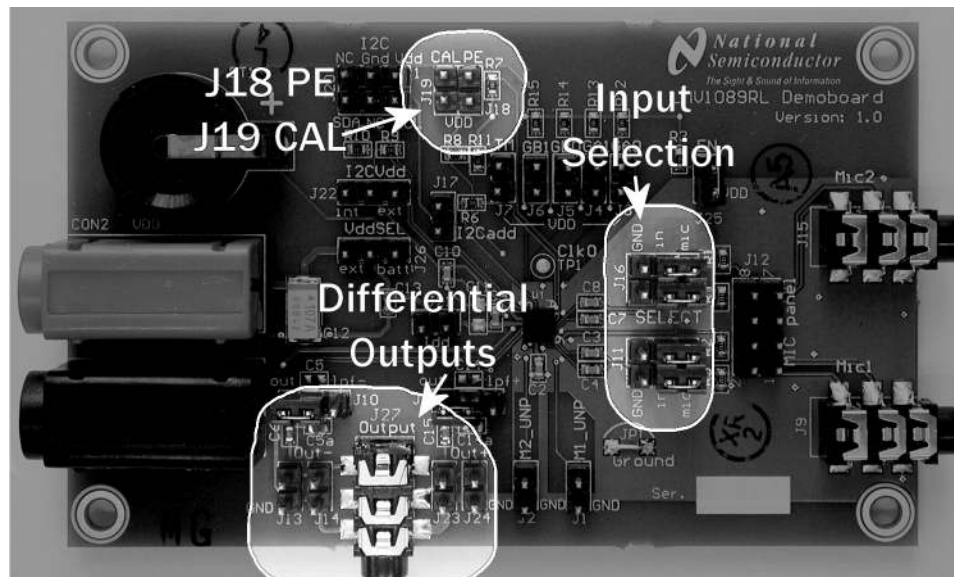

Figure 14. Location of CAL pin and PE pin
The automatic calibration process can be initiated from either a digital interface CALIBRATE pin (CAL / J19 see Figure 14) or via the I²C interface.
The logic level at the PROGRAM ENABLE (PE) pin determines if the result of the calibration is volatile or permanent. To make the result of the calibration permanent (stored in the EEPROM) the PROGRAM ENABLE pin (PE / J18 see Figure 14) must be high during the automatic calibration process.